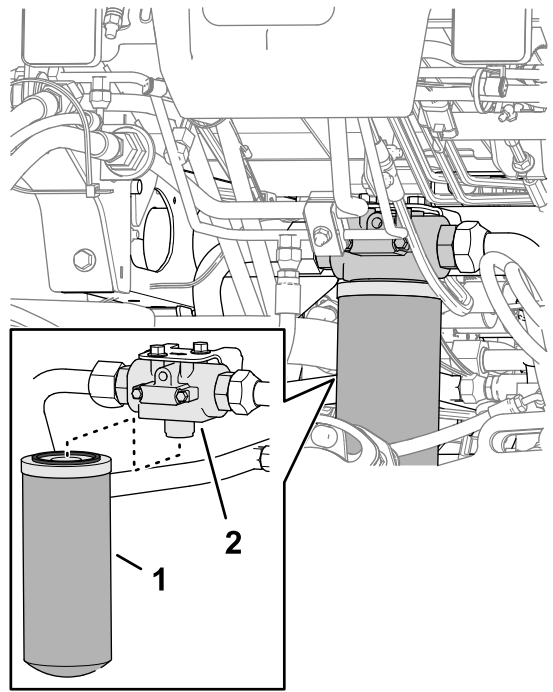

Figure 113
2. At the front of the machine, align a drain pan under the return filter (Figure 113).